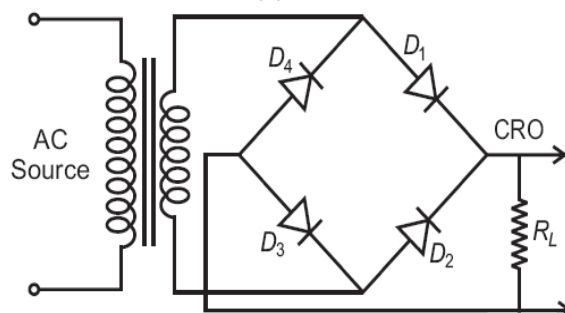

Fig. 10.3: Bridge rectifier circuit.
Rectification can be achieved with a normal transformer in a bridge rectifier circuit, which consists of four diodes. Its circuit is shown in Fig. 10.3. You can see that diodes D_1 and D_3 conduct in the positive half cycle, while D_2 and D_4 conduct in negative half cycle.
You have learnt in Sec. 10.2.3 that a bridge rectifier consists of a normal transformer instead of a centre-tapped transformer. In the bridge rectifier, there are four diodes as shown in Fig. 10.3.
1. Make the circuit connections for the full-wave rectifier using the bridge rectifier shown in Fig. 10.3. You can use a breadboard for connecting the circuit.